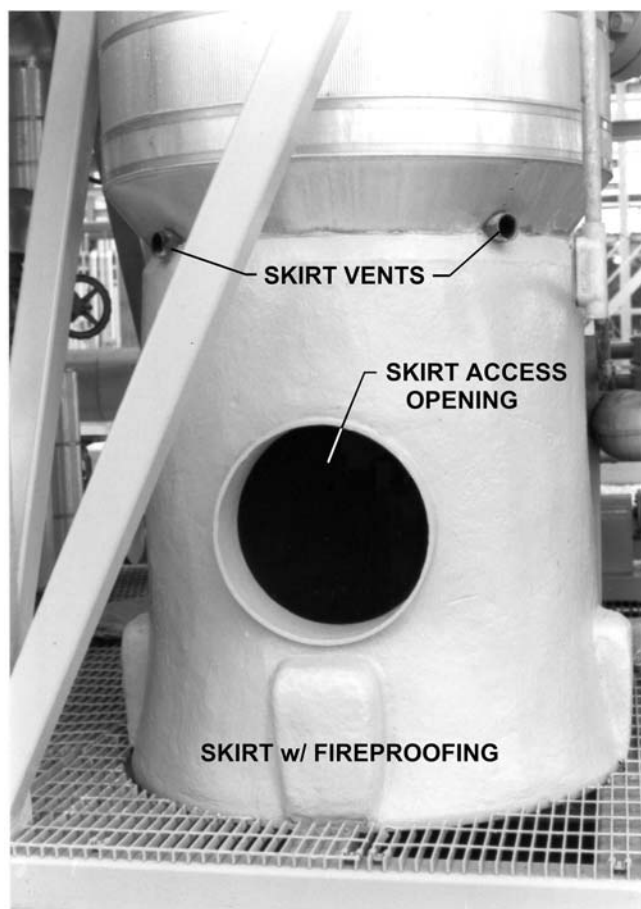

FIGURE 6.51 Skirt with fire proofing, skirt access opening, and skirt vents. Courtesy of Nisseki Chemical Texas, Inc., Bayport, Texas.
- **Skirt**—A cylinder shaped support for a vertical vessel. One end is welded to the base plate allowing it to rest on a concrete foundation or structural steel platform, and the other end is welded to the bottom head of a vertical vessel. See Figure 6.51.
- **Skirt access opening**—An 18" ID hole 2'-6" above the foundation or platform which allows workers entrance for inspection and maintenance. See Figure 6.51.
- **Skirt vents**—Equally spaced holes, sometimes with pipe inserts, approximately 3"–4" in diameter placed near the top of the vessel skirt that allow toxic and explosive gases to escape. See Figure 6.51.